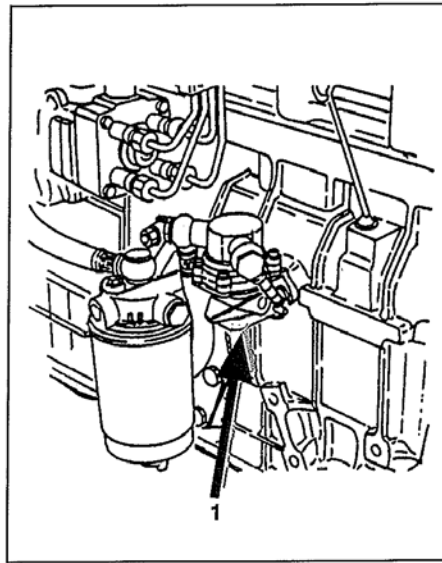

Figure 4 - Hand Priming Pump
- 5.) Operate the hand priming pump to purge air from the system. (Fig. 4) Item 1.